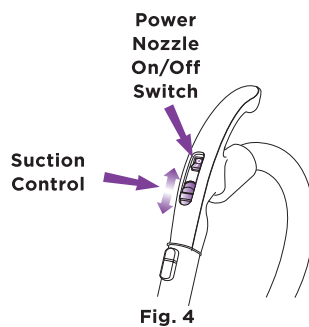

Fig. 4
- 4 Then turn the power nozzle 'On' using the switch on the flexible hose handle. (Fig. 4)